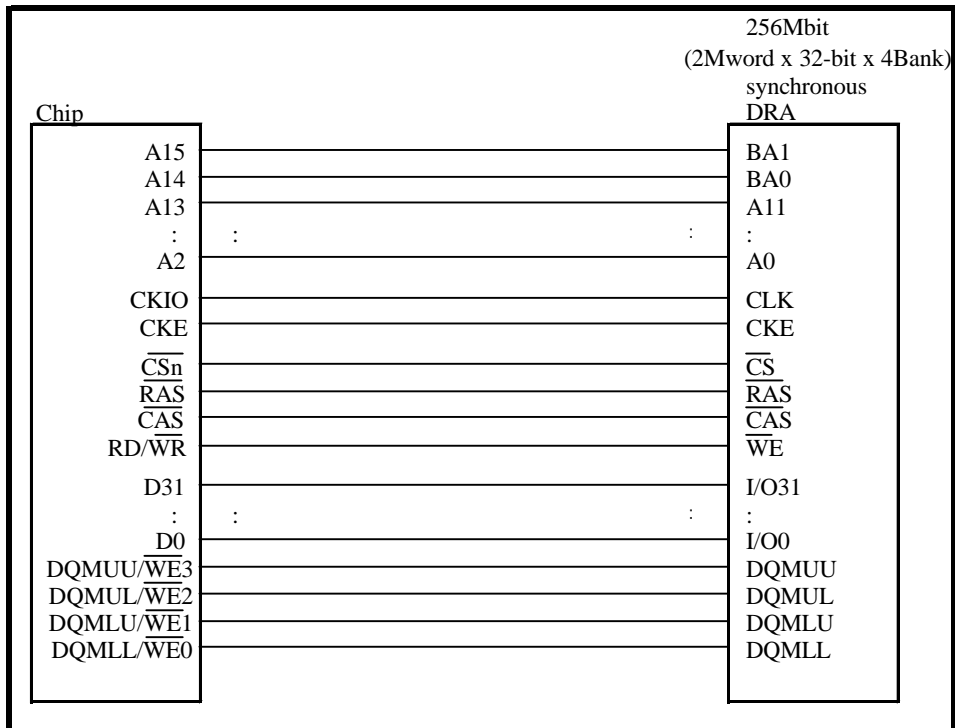

Figure3 256Mbit Synchronous DRAM (8Mword×32bit) Connection Example
5. See Figure3 for the method of connection to a 256-Mbit DRAM with a 8M X 32-bit configuration.